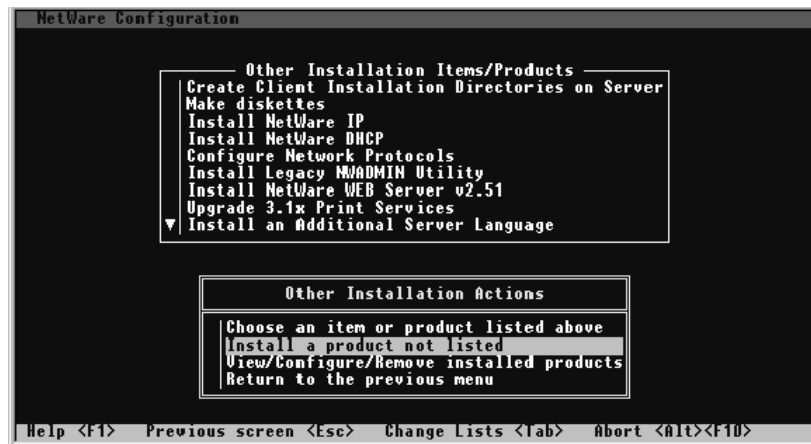

Figure 3-25. Product Options
- Choose the menu selection “**Product options**” and press **ENTER**. Figure 3-25 will display.
3. Choose the menu selection “**Product options**” and press **ENTER**. Figure 3-25 will display.